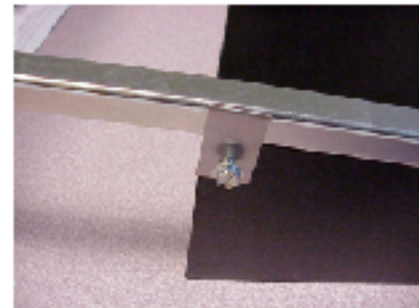

FIG. 5
7. Secure clips to side of shield. See Figure 5.